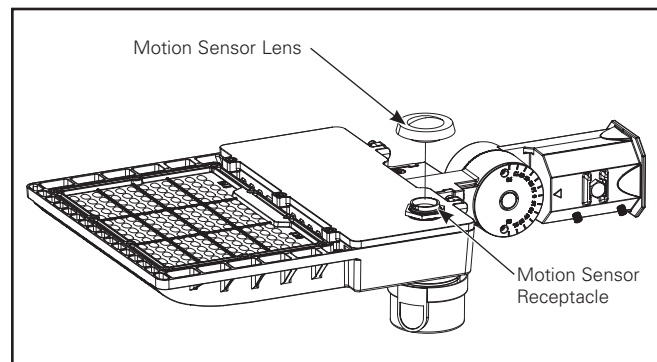

Figure 12.
2. Twist to install the provided motion sensor lens onto receptacle until secure. (Figure 12.)